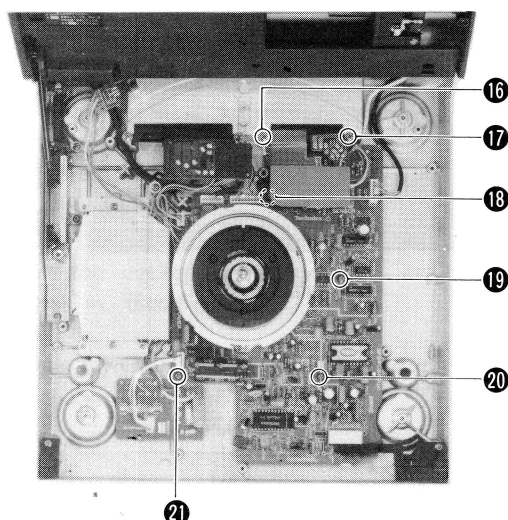

Fig. 8
2. Remove the shield cover setscrew ⑮ and drive circuit board setscrews ⑮ ~ ⑳. (See Fig. 8)